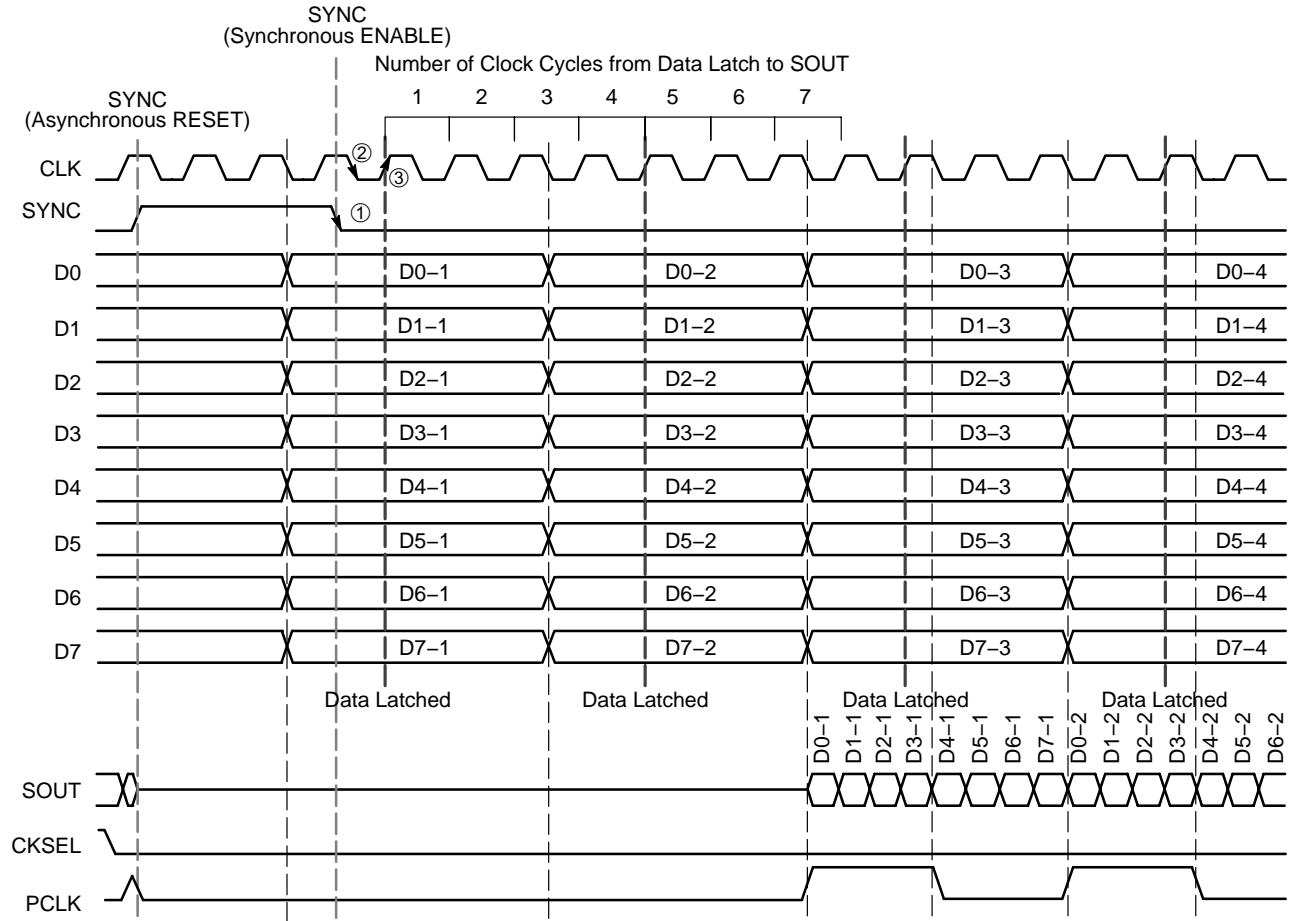

Figure 8. Timing Diagram 1:8 Parallel to Serial Conversion with CKSEL LOW and SYNC
The device also features a differential SYNC input (Pins 29 and 30), which asynchronously reset all internal flip-flops and clock circuitry on the rising edge of SYNC. The release of SYNC is a synchronous process, which ensures that no runt serial data bits are generated. The falling edge of the SYNC followed by a falling edge of CLK initiates the start of the conversion process on the next rising edge of CLK (Figures 8 and 9). As shown in the figures below, the device will start to latch the parallel input data after the a falling edge of SYNC ①, followed by the falling edge CLK ②, on the next rising edge of CLK ③ for CKSEL LOW